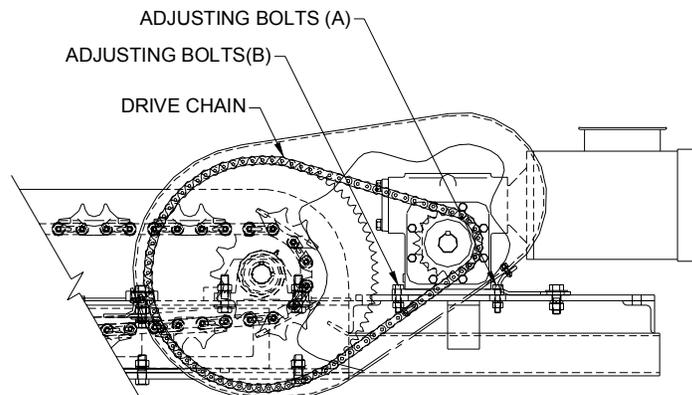

FIGURE 3
The drive chain should also be checked and adjusted at the same one month interval as the caterpillar chain. If it has more that  $\frac{1}{2}$ " of play it should be adjusted. The reducer has four (4) adjusting bolts used to hold the reducer in place, Refer to Figure 3.